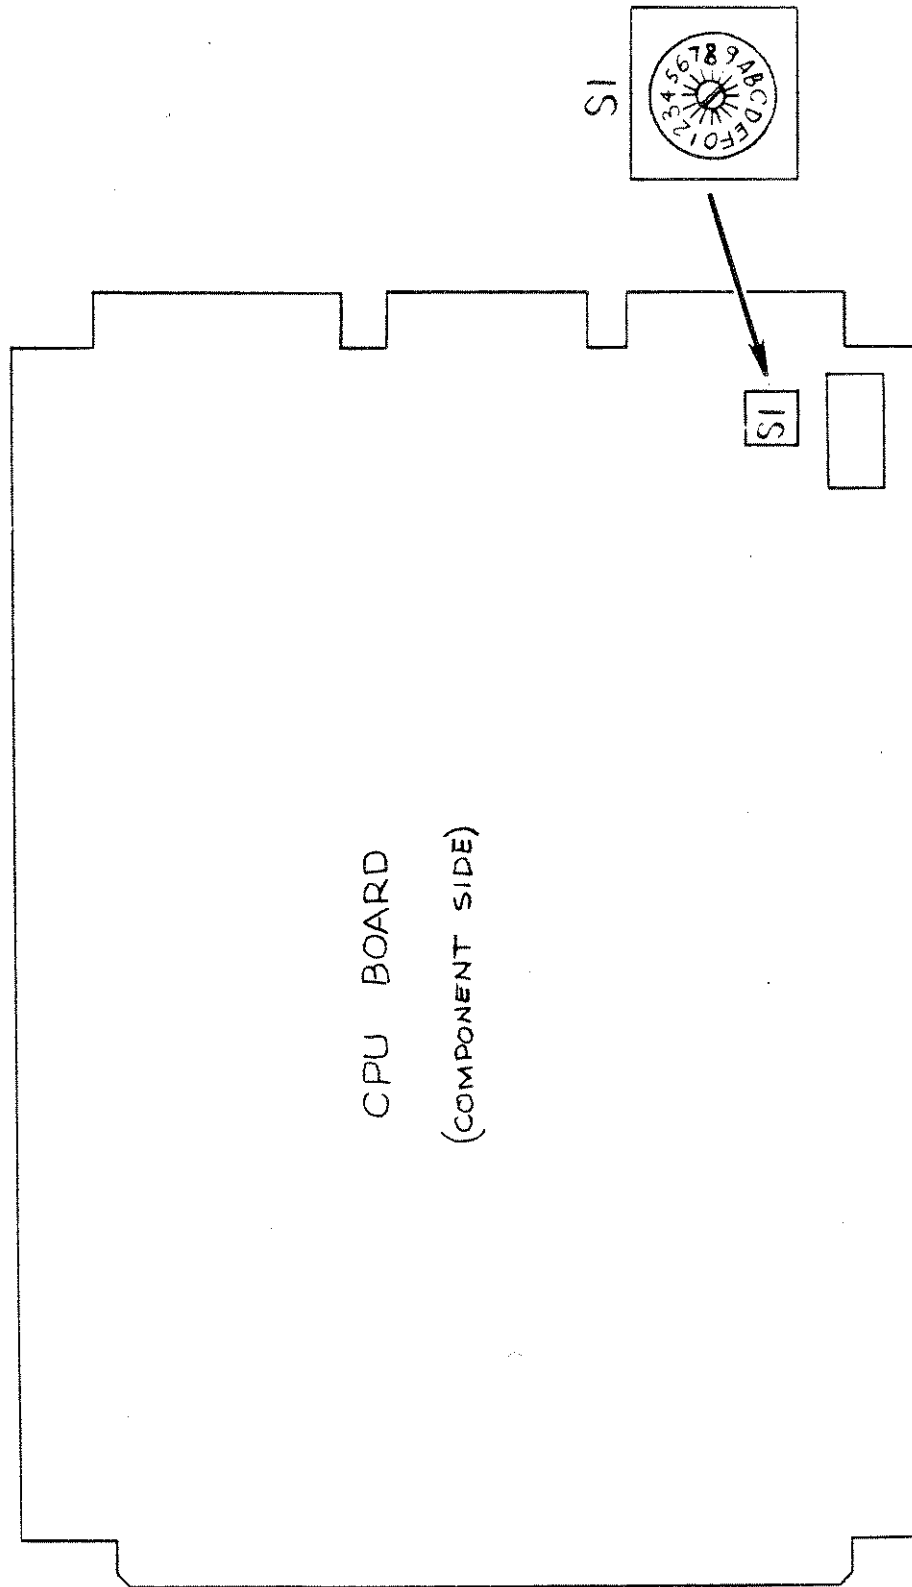

Figure 5. Location of Baud Rate Switch on CPU Board
- d. Adjust the baud rate switch mounted on the CPU board (fig. 5) for the desired baud rate, as indicated in Table 4.